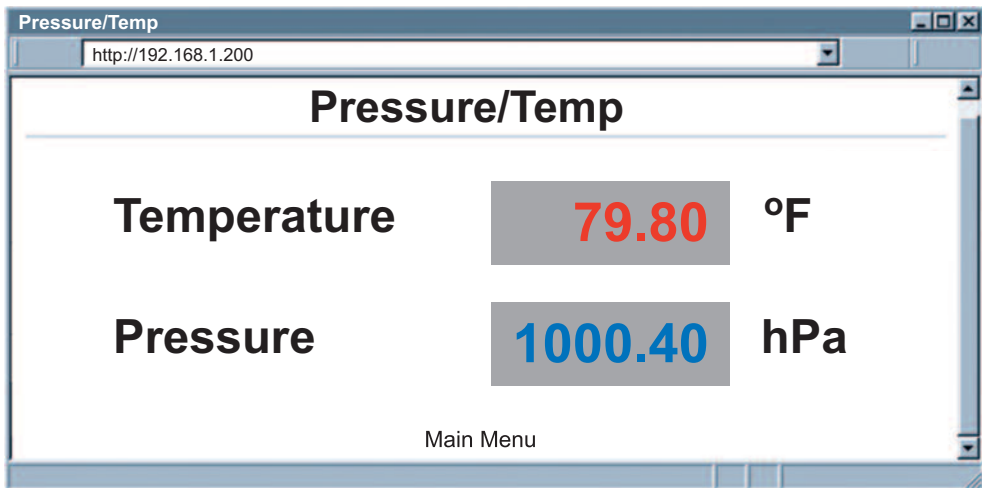

Figure 4.7 Read Sensor
- Click on Read Sensor. In a few seconds the following page (**Figure 4.7**) will appear with all default values of 100.00. Then the actual readings of Temperature and Barometric Pressure will be displayed.